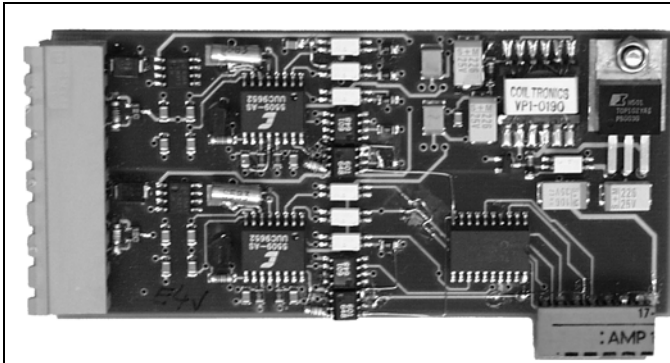
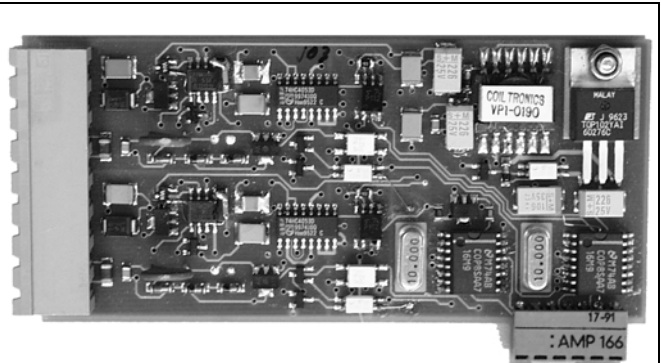

Fig. 6-2 Two 4...20 mA inputs and two transmitter power supplies
Fig. 6-3 Two 4...20 mA outputs and two binary inputs or outputs
4.	Plug the option module onto the main board. Connect Module 1 (Fig. 6-2 on page 37) (current input board) to Connector 1. Connect Module 2 (Fig. 6-3 on page 37) (current output board) to Connector 2, 3 or 4 (depending on the application).